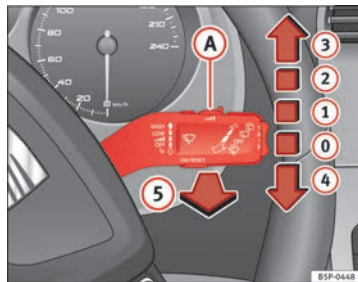

Fig. 85 Windscreen wiper and windscreen wash lever
The windscreen wiper lever ⇒ Fig. 85 has the following positions:
- The next speed down will automatically be selected if speed ⇒ Fig. 85 ② or ③ is selected when the vehicle stops. The set speed will be resumed when the vehicle starts again